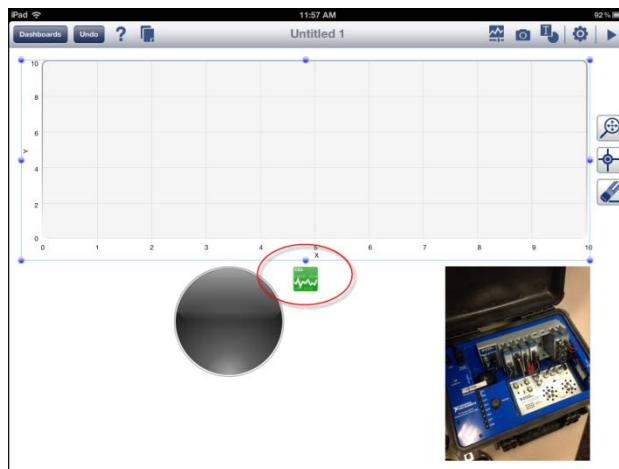

Figure 26. Once a display element is successfully linked with a data source, its Data Link Adorner will become green in color.
60. The Shared Variables dialog will close and the Data Link Adorner of the Graph Indicator will be green in color, indicating a successful link with a source of data, as show in Figure 26.